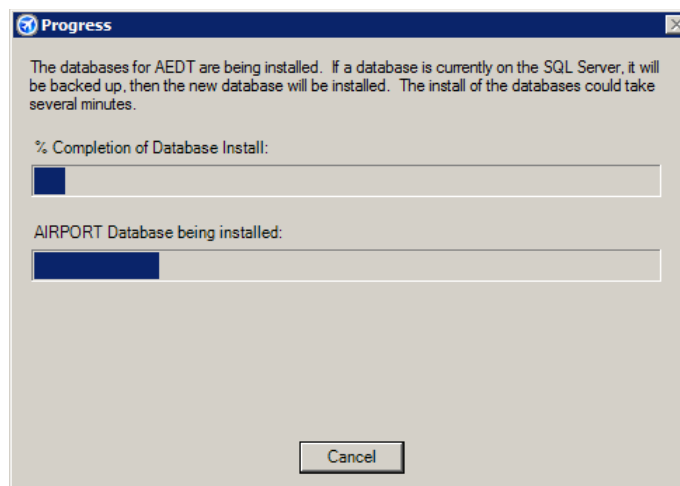

Figure 2-26 AEDT Setup Wizard – SQL Server Database Installation Progress
11. The AEDT database installation progress will be displayed (Figure 2-26). No action is required.